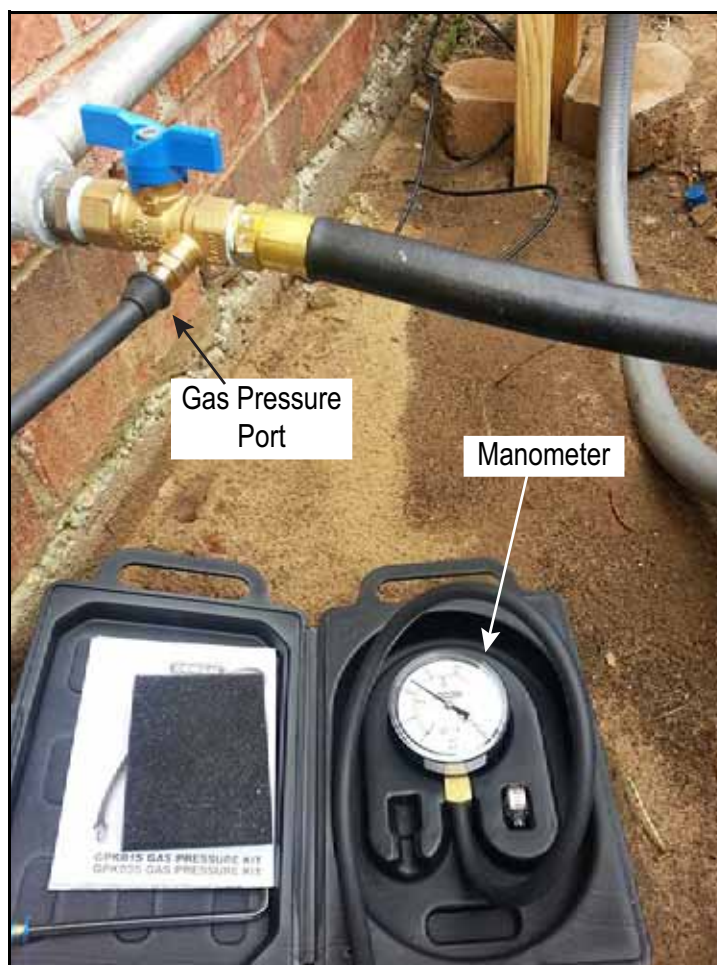

Figure 5-6. Checking Pressure with Manometer
- Remove the top gas pressure test port from the regulator (see Figure 5-6.) and install the gas pressure tester (manometer).